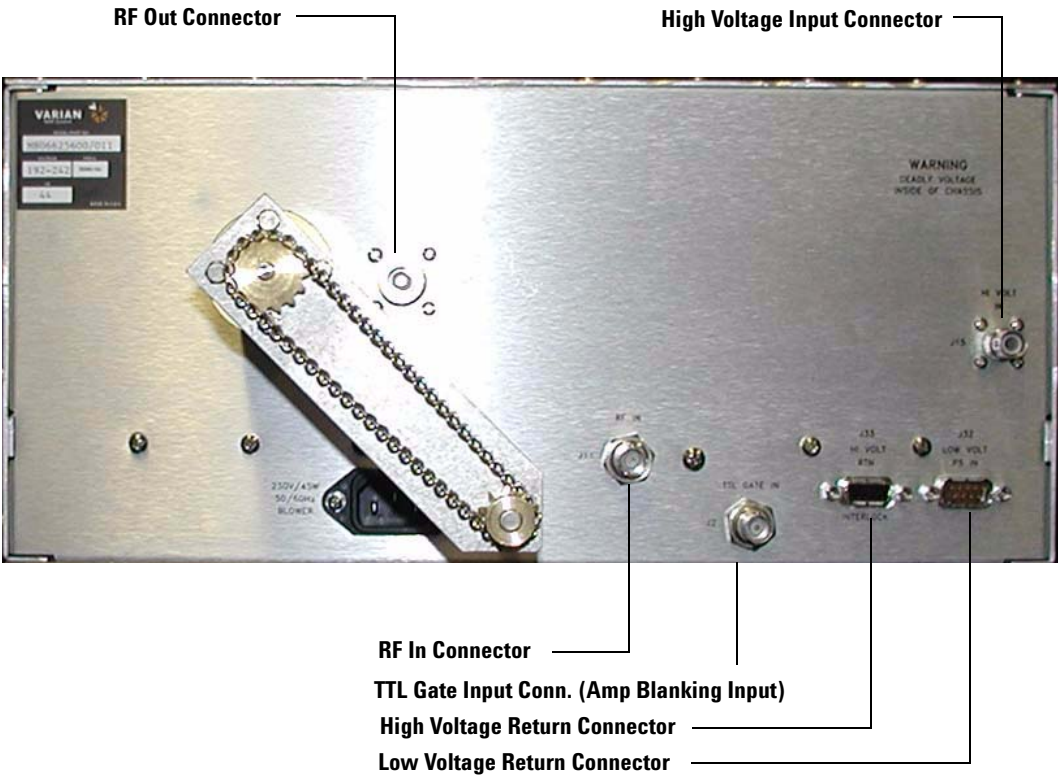

Figure 2 CMA RF deck rear panel
- 1 Verify connector **J16 RF out** (Figure 2 on page 9) is connected to a load cable that is attached to a load.
- 2 Verify that the high voltage cable from the Glassman power supply is connected to connector **J15 Hi volt in** (Figure 2 on page 9) .
- 3 Verify (Figure 2 on page 9) that the cord is connected to the blower input connector.
- 4 Verify that the RF in cable is attached to connector **J14 RF in** (Figure 2 on page 9).
- 5 Verify that the Hi Volt Rtn cable from the Glassman is attached to connector **J33 Hi Volt Rtn** (Figure 2 on page 9).
- 6 Verify that the Low Voltage Supply cable is attached to connector **J32 Low Volt** (Figure 2 on page 9).
- 1 Connect a wattmeter to the output of the CMA amplifier (Figure 2 on page 9) through a short (1 meter or less), high quality RF cable.
- 4 Power up the unit (Figure 2 on page 9).